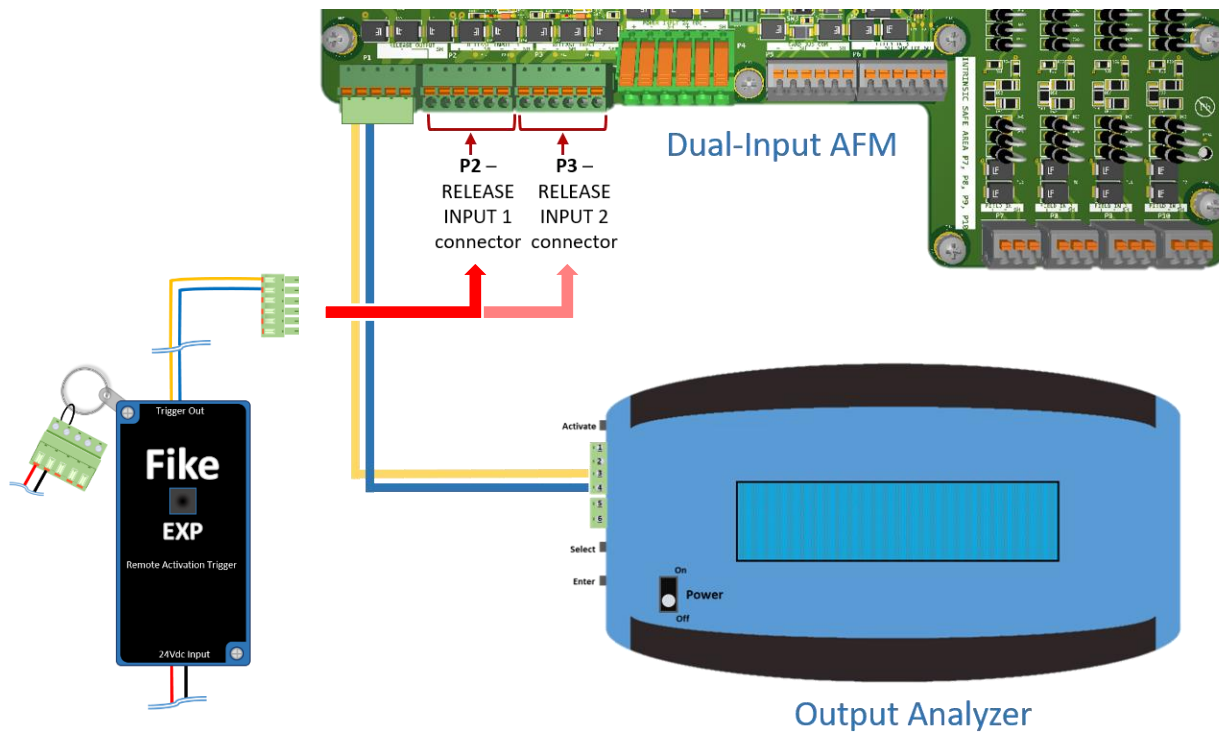

Figure 11 - EXP AFM Firing Circuit Activation Current Test (Dual Input shown)
3. Disconnect the "Release Input" plug being tested from the AFM and plug in the Remote Trigger "Trigger Out" connector to the AFM "Release Input" plug for input being tested (P2 or P3), as shown in Figure 11.